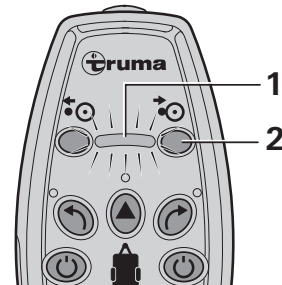

Figure 3
- Press the button (Figure 3 - 2) on the remote control for about 5 seconds and then release it. The drive roller engages. The display (Figure 3 - 1) flashes during this process.